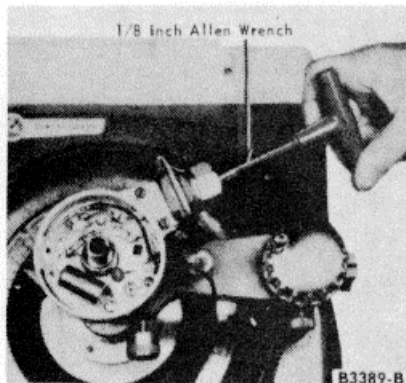

FIG. 7. Vacuum Advance Adjustment
4. If the advance is incorrect and adjustment is required, disconnect the vacuum line and insert a 1/8 inch socket head wrench in the end of the diaphragm (Figure 7). Turn the wrench clockwise to increase the vacuum advance or counterclockwise to decrease it. Do not change the original rpm setting when going to a different vacuum setting. If the other settings are not within limits, there is incorrect spring tension. leakage in the vacuum chamber and/or line.